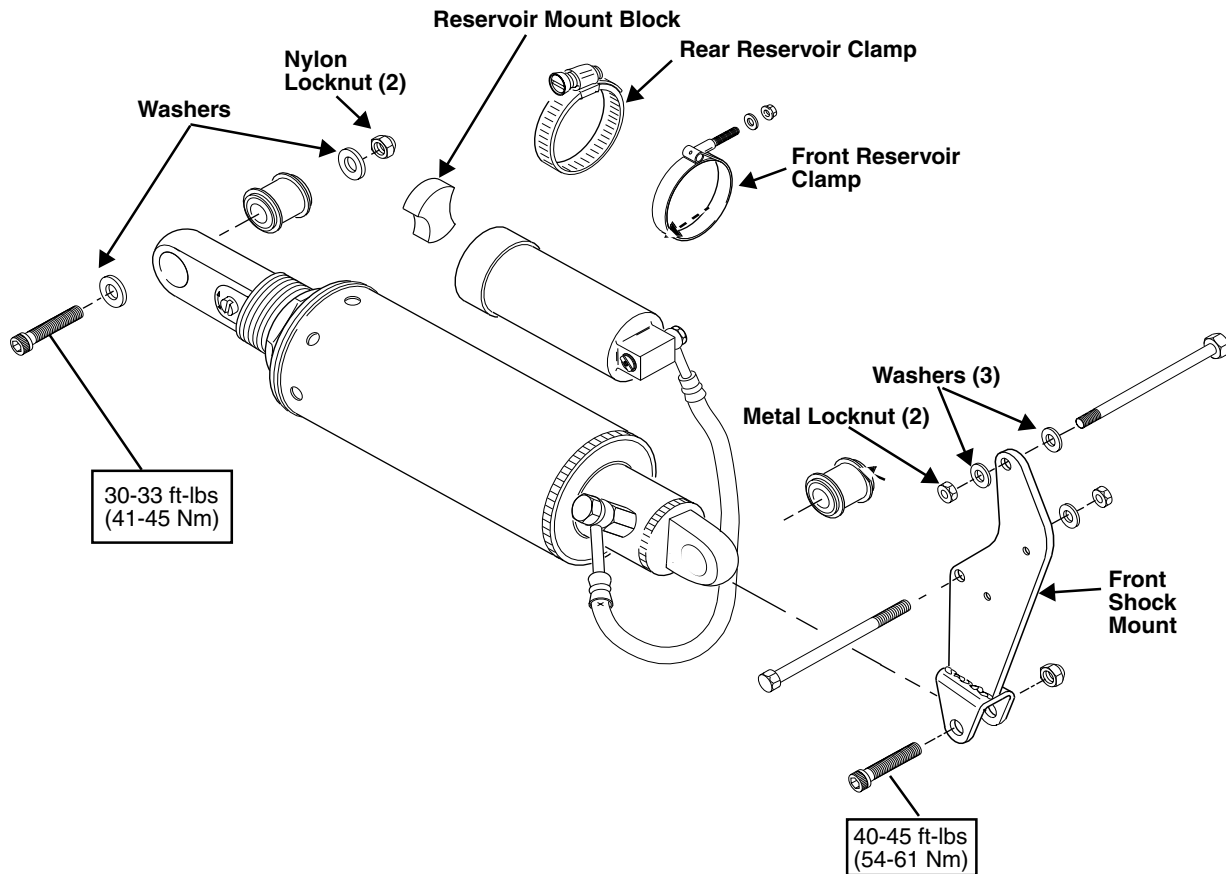

Figure 2-80. Rear Shock Absorber
See Figure 2-80. The rear suspension is controlled by the shock absorber. The shock allows adjustment of rear compression and rebound damping and spring preload.
1. See Figure 2-80. Place **new** bushings into mounting holes of shock absorber (if only replacing bushings).